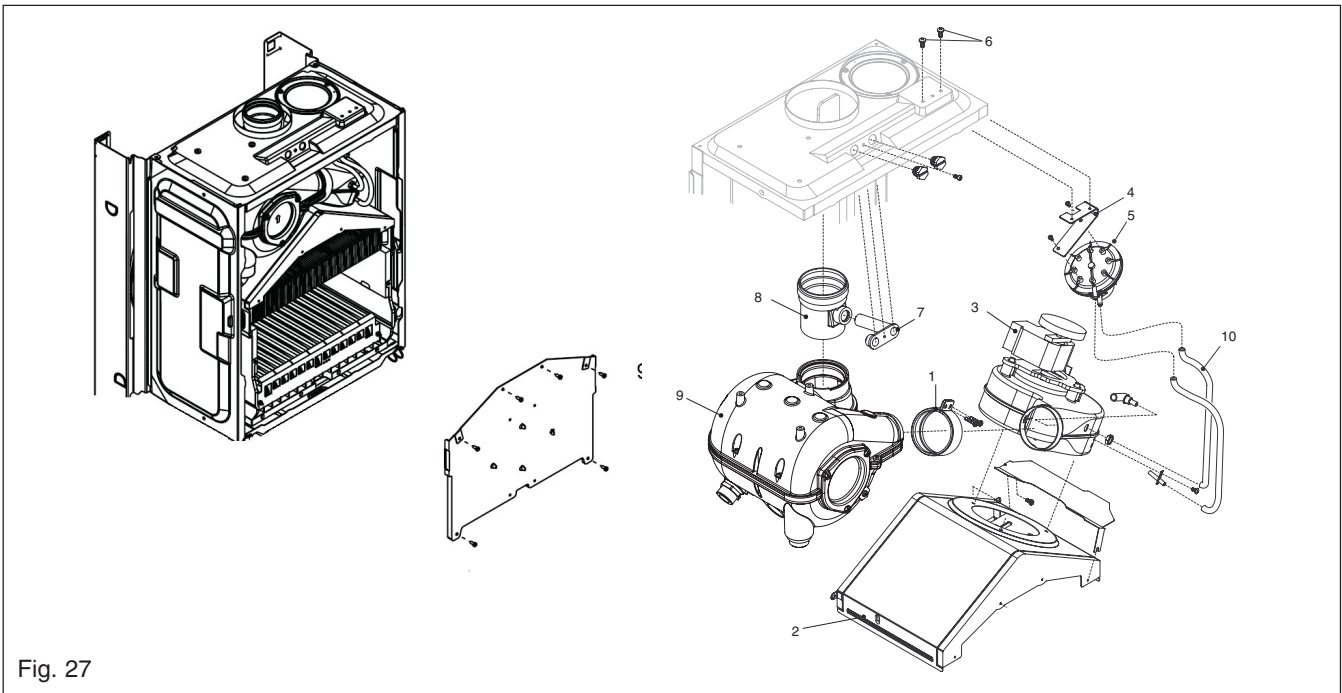

Fig. 27
6.16 FLUE FAN fig. 27
6.18 AIR PRESSURE SWITCH fig. 27
6.17 MAIN HEAT EXCHANGER fig. 27/28